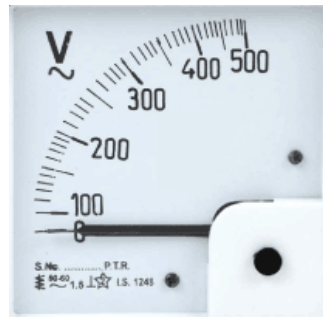

Fig. 3.29 Voltmeter
Voltmeter - A voltmeter, or voltage meter, is an instrument designed to measure the voltage or potential difference between two points in an electronic or electrical circuit. It is commonly used for both Alternating Current (AC) and Direct Current (DC) circuits. Additionally, specialized voltmeters can measure Radio Frequency (RF) voltage as shown in Figure 3.29.